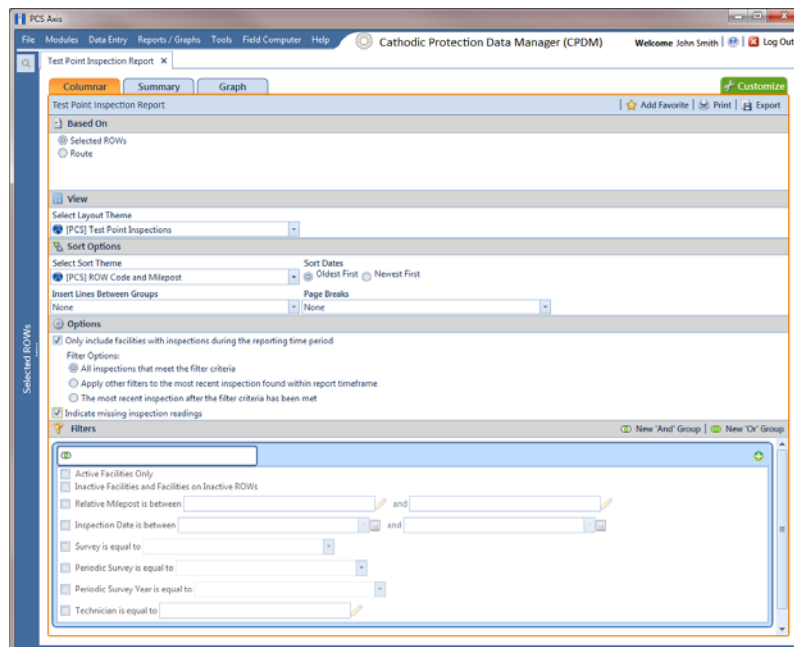

Figure 16-22. Test Point Inspection Report
- 2 Click **Reports/Graphs** and then select a report in the menu to open a window with report property settings. If the *Columnar* property settings window is not visible, click the **Columnar** tab  to open the window (Figure 16-22, page 692).
The following figure shows an example of the *Columnar* property settings window for the *Test Point Inspection Report* (Figure 16-22, page 692).